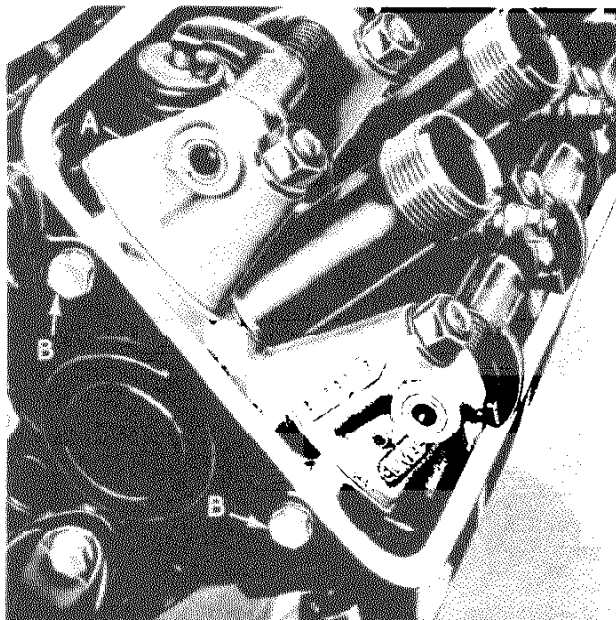

Figure D18
ASSEMBLING Fig. D18
- (i) That the two inlet rocker shafts, identified by a groove machined in one end, are selected and worked upon first. Fig. D18.